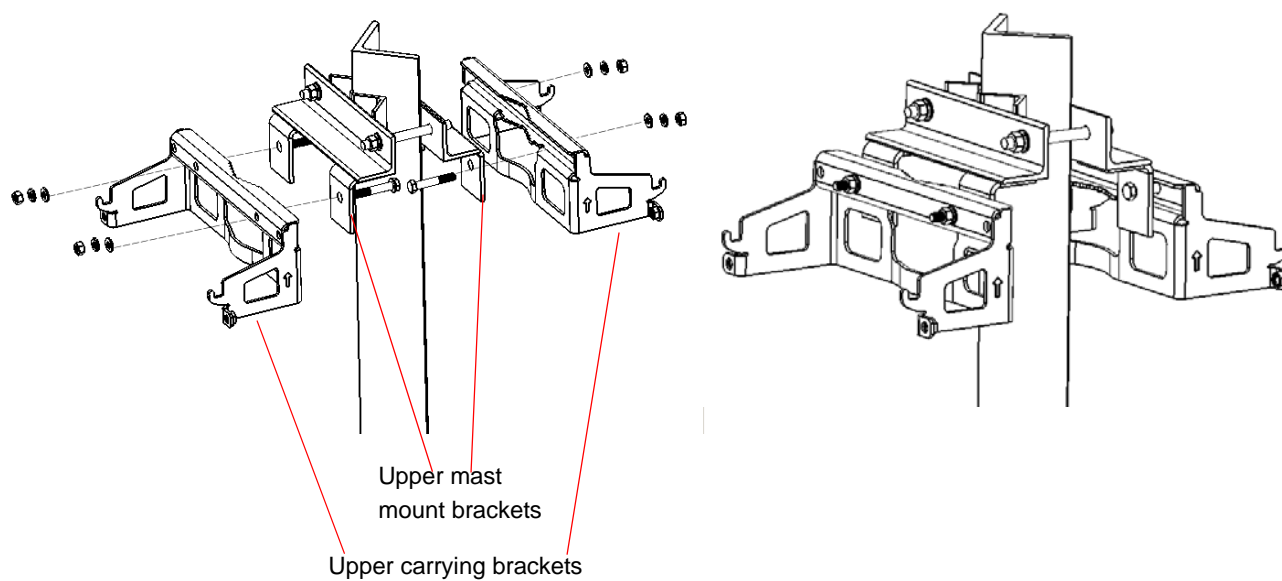

Figure 28: Assembling the Upper Carrying Brackets on the Mounting Brackets
- 4 Assemble the upper carrying brackets on the upper mast brackets (Figure 28).